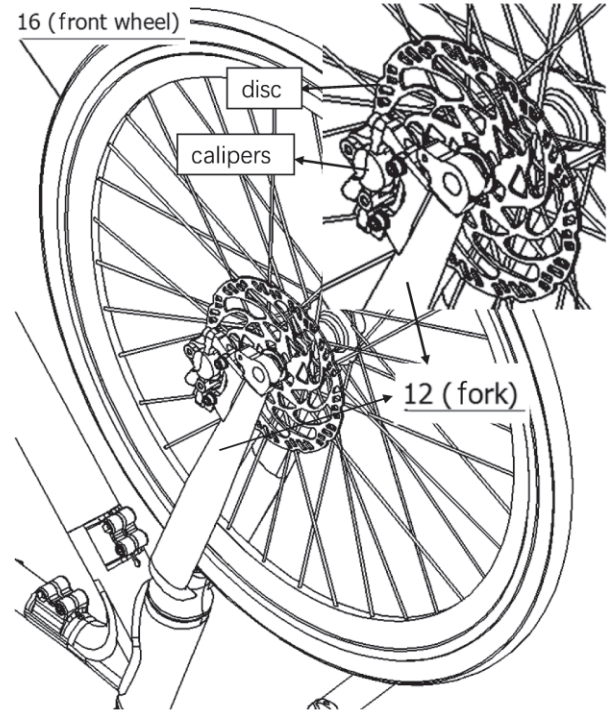

Figure 44-3.
c. Carefully place Part 16 into Part 12, making sure to carefully insert the disc between the brake calipers, as shown in Figure 44-3.